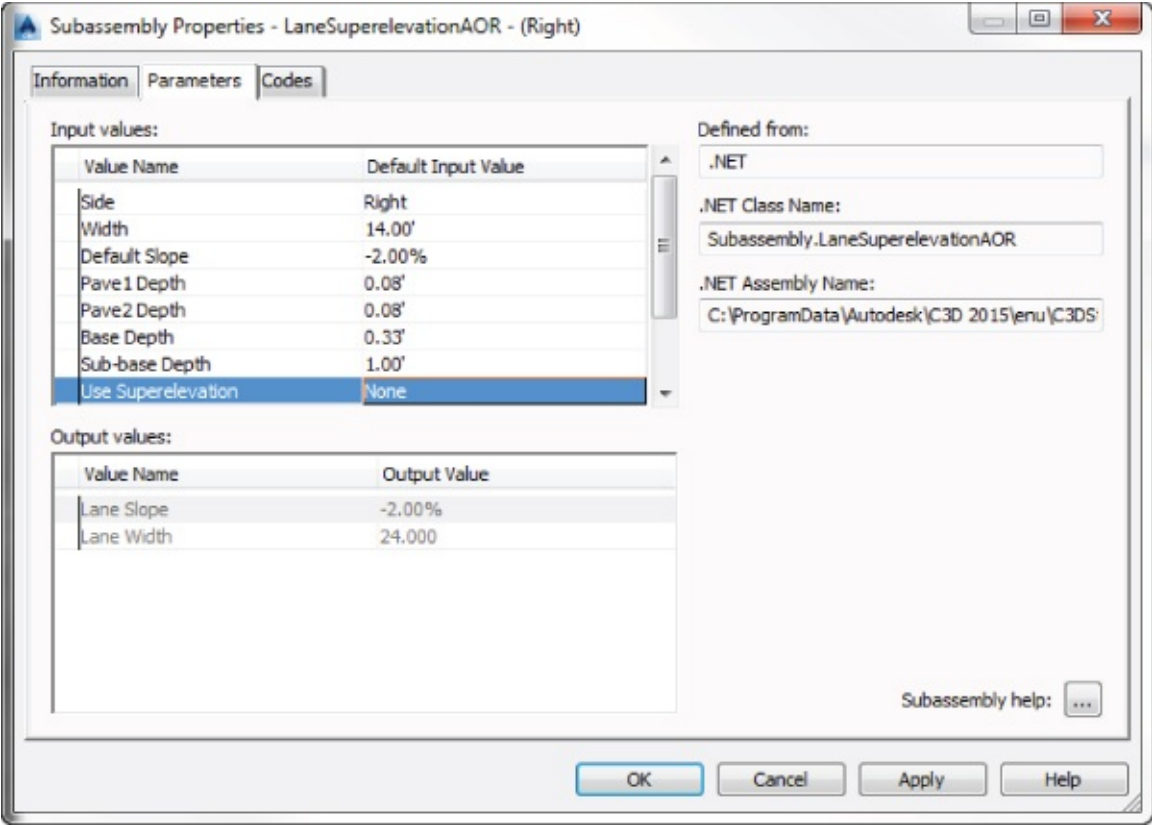

Figure 8.31 Subassembly Properties – Parameters tab
3. Switch to the Parameters tab, shown in Figure 8.31, to access the same parameters you saw in the AutoCAD Properties palette when you first placed the subassembly.